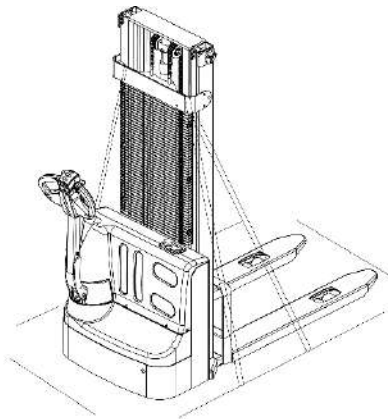

Fig. 4.c: Fixing points
- Lower the forks and park the truck securely. Fasten the truck according to fig. 4.c by fixing dedicated lashing belts at both sides each 2 pc of the trucks upper mast traverse and fasten the other side at the transporting truck.